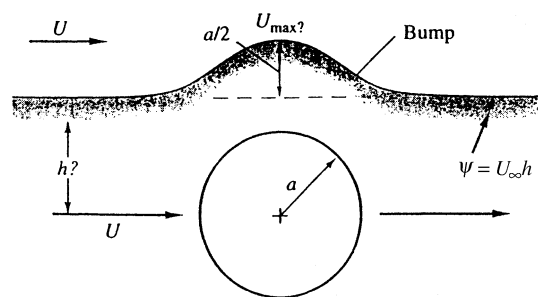

Fig. P8.50
**8.50** It is desired to simulate flow past a ridge or “bump” by using a streamline *above* the flow over a cylinder, as shown in Fig. P8.50. The bump is to be  $a/2$  high, as shown. What is the proper elevation  $h$  of this streamline? What is  $U_{\text{max}}$  on the bump compared to  $U_\infty$ ?